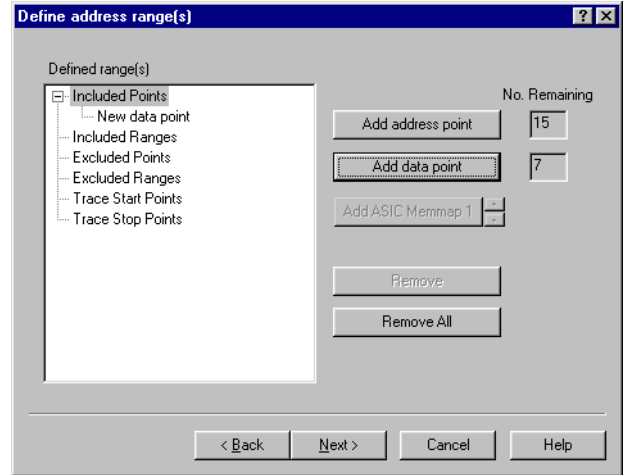

Figure 8-22 Defined address range(s) dialog box
4. Click on **Next>**. The Address Range dialog box shown in Figure 8-22 on page 8-25 is displayed.